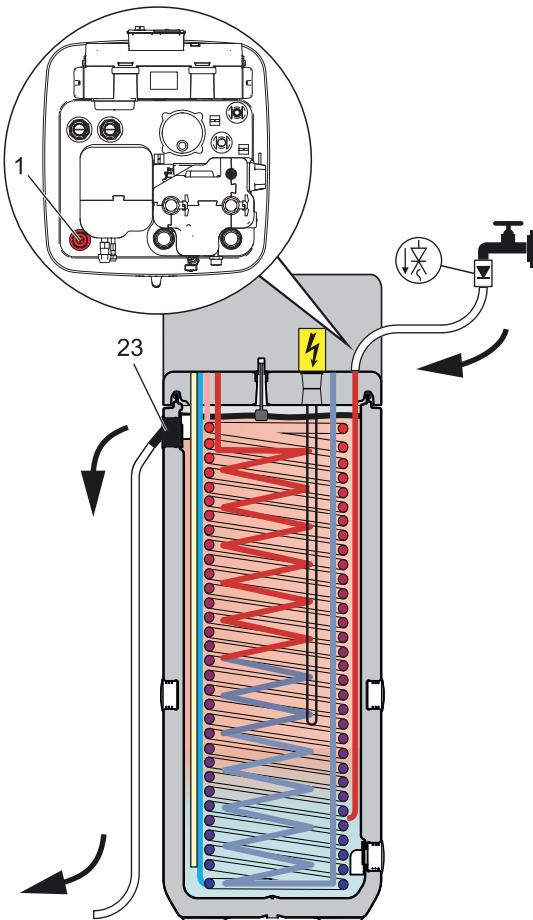

Fig. 7-1 Buffer storage filling - without solar system
- Connect the **filling hose** with backflush prevention (1/2") to the connection "DrainBack Solar - feed" (see fig. 7-1, item 1).
- **Fill** the storage tank on the ROTEX HPSU compact **until water comes out of the connection** (fig. 7-1, item 23), that has been connected as the **safety overflow**.